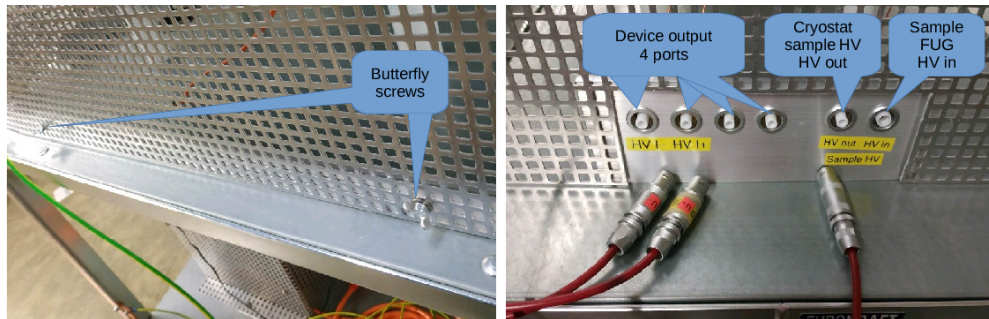

Figure 8.3: (left) Butterfly screws to secure the cage mesh. (right) HV panel.
- Fasten the cage securely to the trolley using four butterfly screws, see Fig. 8.3(left).
- Finally, we need to make sure that the sample and HV platform of the cage are biased to the same HV at all times. To achieve this, make sure the the sample HV FUG is powered off, connect the sample HV cable (normally connected to the cryostat), to the HV plugs panel in the cage (on the right side of the panel, see Fig. 8.3(right)). Connect the next